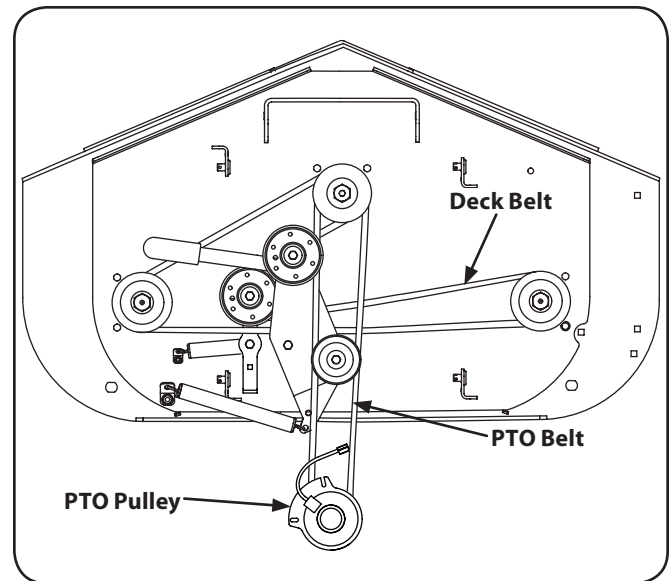

Figure 7-8
6. Route the belt as shown in Fig. 7-8. After routing the belt around the PTO pulley, use a ½" drive in the idler pulley bracket and turn towards the back of the tractor to finish routing the belt around the idler pulley.
4. Install the new deck belt around the spindle pulleys as shown in Fig. 7-8 and reinstall the belt covers.